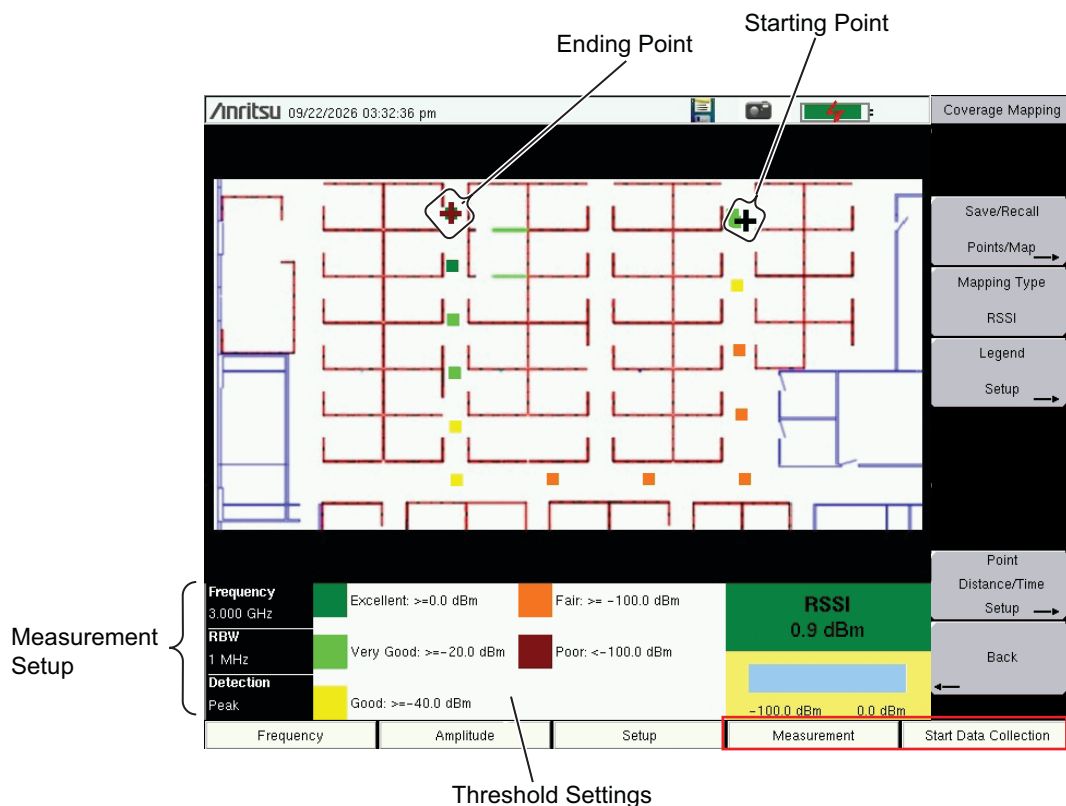

Figure 11-4. Indoor Coverage Mapping
7. Select Save/Recall Points/Map button on the Coverage Mapping menu. See Figure 11-4.